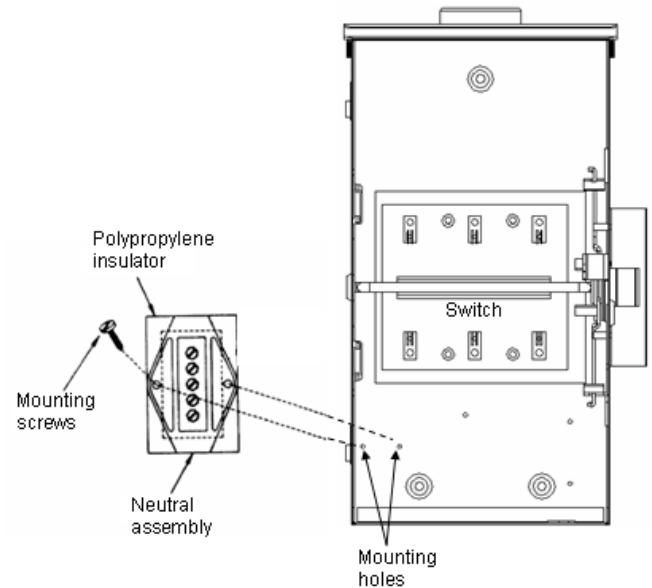

Figure 1.
1. Tighten mounting screws in to mounting hole in the enclosure ensuring item 3 (insulator) beneath neutral assembly Ref. Fig 1.